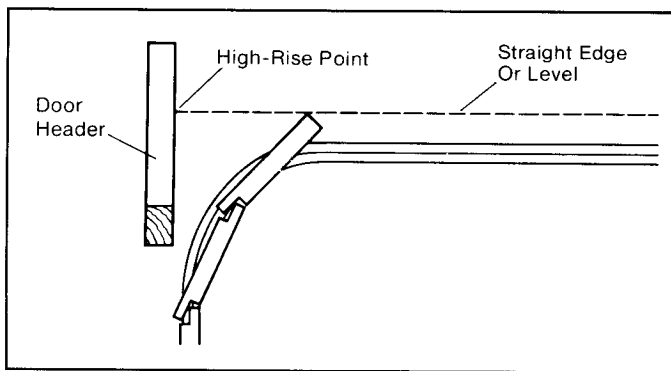

Figure 9: Determine High-Rise Point (Sectional Door)
Step 16: Determine high-rise point of door (highest point door reaches when opening). See Figure 9. Place straight edge or level at the top of the center of the door at its highest point of travel. Make sure straight edge is level and mark the door header where it touches. This is your high-rise point.